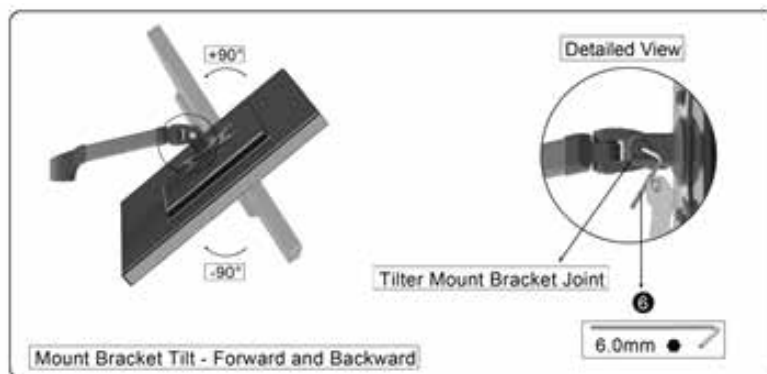

Figure 13
1. Depending on the weight of your monitor and your preferences, you may find it necessary to adjust the tension of the VESA Bracket. You can adjust the Forward/Backward Tilt of the Bracket, as well as, the Left/Right Swing of the Monitor. Using the 6mm Hex Allen Wrench (5) you can adjust the bolts to the desired tension. (See Figure 13)